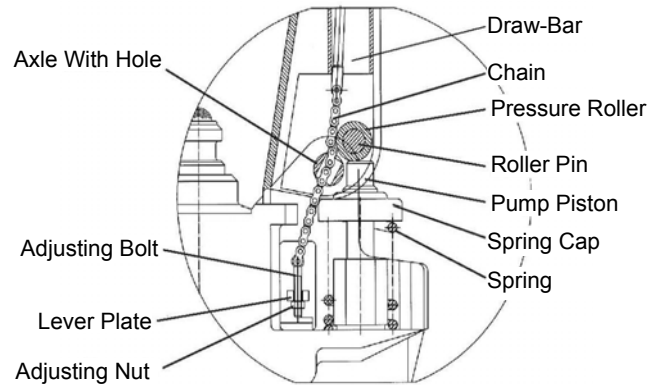

Figure 1 Side View with Labels
- 2) Set the control lever of the handle to the 'LOWER' position, then pass the adjusting nut, adjusting bolt through the hole of the axle with your hand (Fig. 1).
The truck is equipped with 2 supports. At a height of approx. 15-3/4" (400 mm), the supports automatically set onto the floor. Once the supports are in place, further movement is not allowed. For the electric version press the lifting button (Fig. 1, pos. 9) to perform the lifting function.